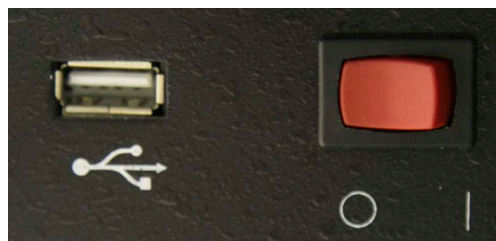

Figure 2-12 Front USB and On switch
1. Press the red switch next to the front USB port to the ON position to boot up the system (Figure 2-12).